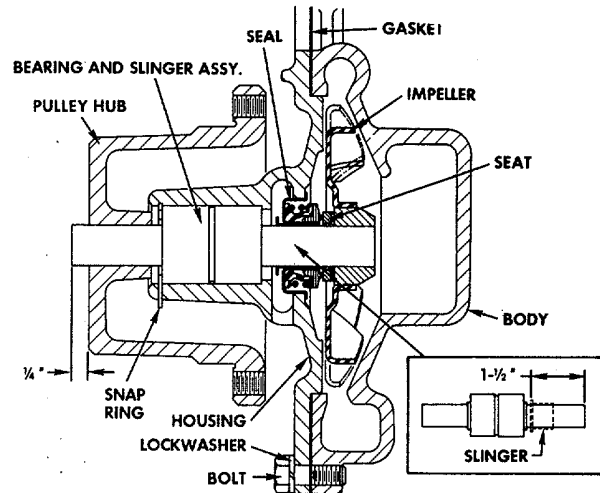

Fig. 128 Sectional View of Water Pump Assembly.
The water pump assembly is composed of a body and housing which accommodates a shaft and bearing assembly, slinger, seal and impeller. The shaft and bearing assembly is held in place in the housing by a retaining snap ring. The pulley hub is pressed onto the shaft (press fit .001" to .0025") to dimension shown in Fig. 128.
5. In the event the slinger is damaged upon removal of the bearing assembly, it will be necessary to install a new slinger on the bearing shaft to a 1-1/2" dimension from rear end of shaft as shown in Fig. 128.